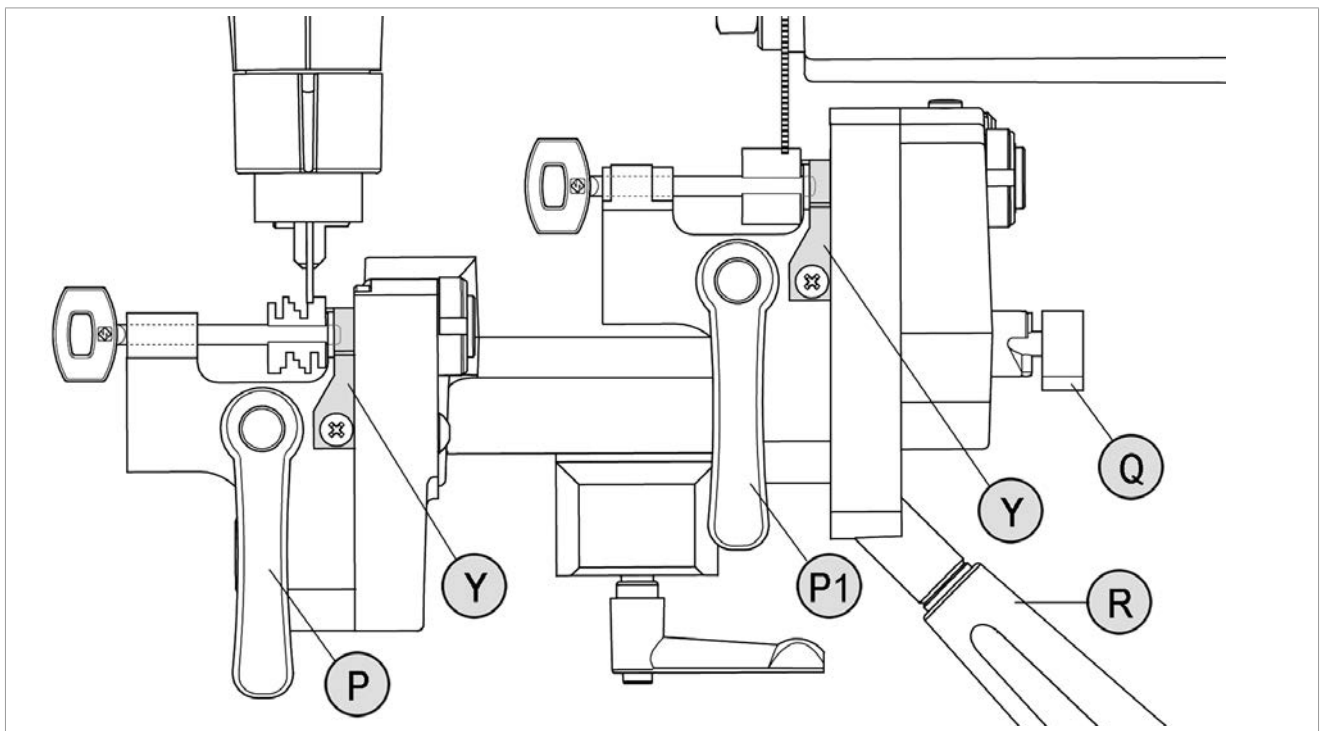

Fig.45
- 1) Use the lever (Q) to lock the right-hand clamp in the horizontal position.
- 2) Lock the key blank into the right-hand clamp (M1) (as shown) (Fig.45).
- 3) Raise the carriage and place the right-hand side of the bit against the cutter. Lock the carriage in this position with the knob (G).
- 4) Lock the original key into the left-hand clamp (M) (as shown), with the right-hand side of the bit up against the tracer point. In this way the two keys will be perfectly aligned (Fig.45).
- 5) Release the knob (G) and take the carriage all the way back.
- 6) Lower the lever (Q) to release the right-hand clamp.
- 7) Turn on the machine with the ON/OFF switch (A).
- 8) Use the lever (L) to slowly take the carriage towards the cutter and press the button (B) to start the motor.
- 9) Hold the lever (R) slightly raised with the key facing downwards.
- 10) Take the cut closest to the original key tip against the tracer point (do not apply force, remember that the key tip is not held) and lower the lever (R) to round off the cut.